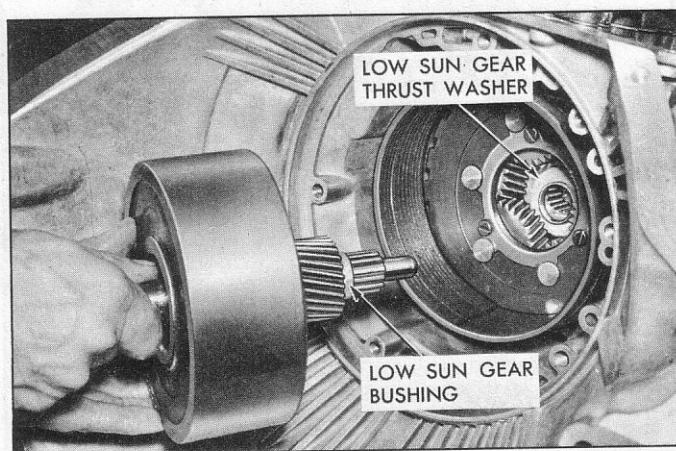

Fig. 14—Removing Clutch Drum and Input Shaft
13. Release the tension on the low band adjustment, then, with transmission horizontal, grasp the transmission input shaft and carefully work it and the clutch drum assembly out of the case (fig. 14). Use care so as not to lose the low sun gear (splined) bushing from the input shaft. The low sun gear thrust washer will probably remain in the planet carrier.